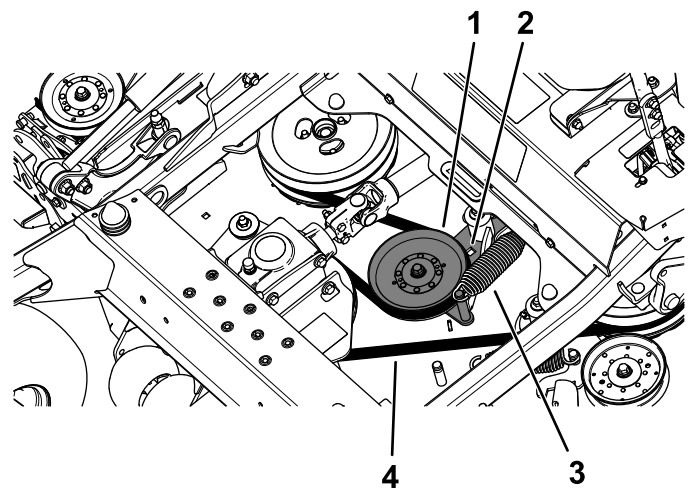

Figure 60
5. Use a ratchet in the square hole in the idler arm to remove tension on the idler spring (Figure 60).
6. Remove the belt from the mower deck pulleys (Figure 60).